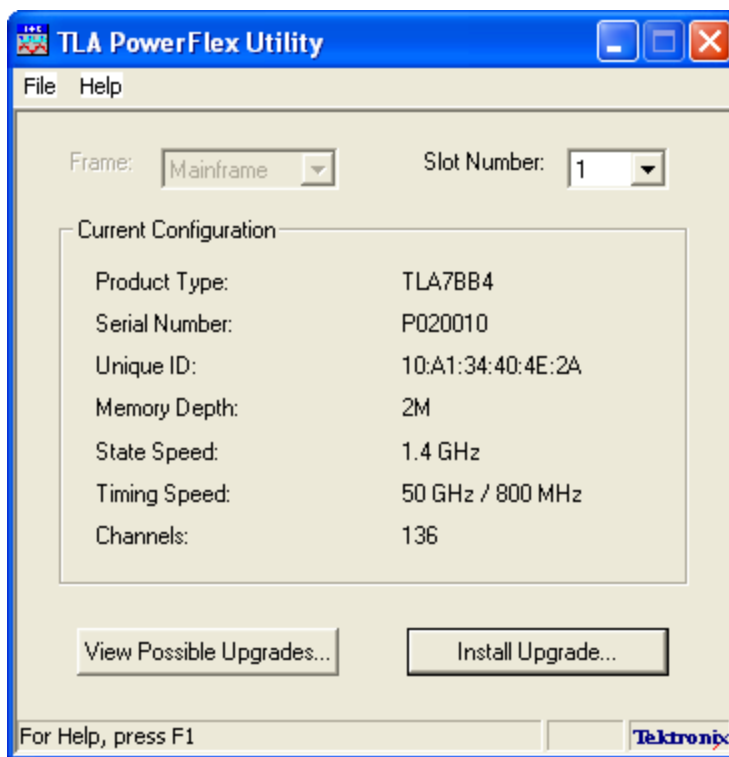

Figure 1: PowerFlex Utility
4. In the PowerFlex window select the instrument using the Frame and Slot Number drop-down lists. Verify that the current configuration for your instrument is correct. (See Figure 1.)